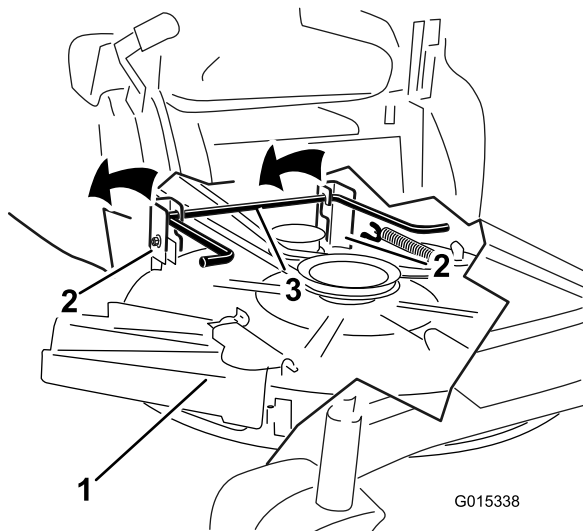

Figure 56
5. Using the mower-deck handles, lift the mower deck and hanger brackets clear of the rear lift rod and lower the mower carefully to the ground (Figure 56).
5. Lift the rear of the mower deck and guide the hanger brackets over the rear lift rod (Figure 56).